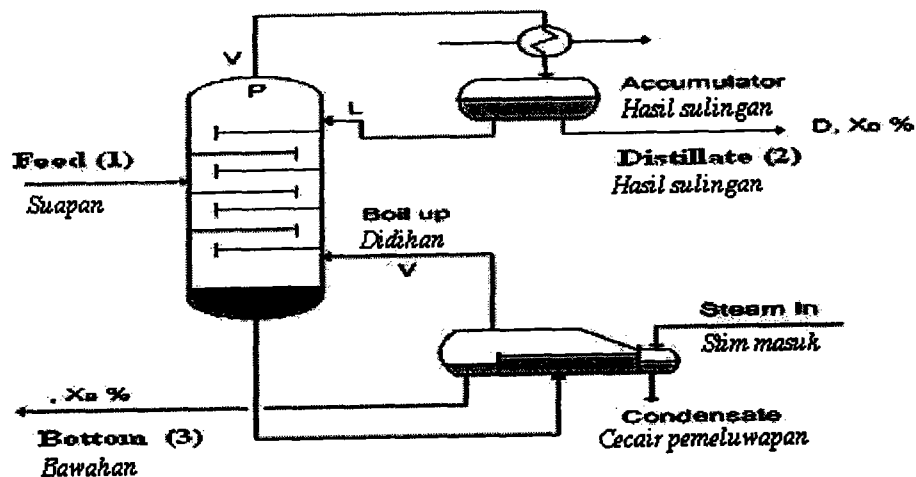

Figure Q.3. : Schematic of a distillation column
3. Consider the distillation column shown in Figure Q.3.